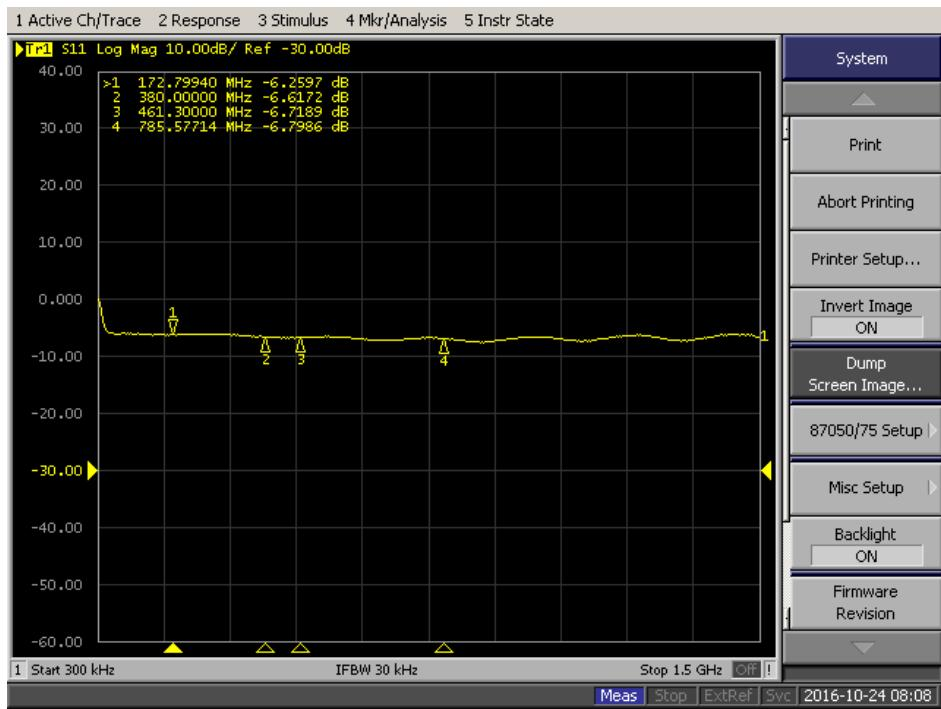

Figure 15: Ideal S11.
- Even without power, the S11, S22 trigger path, S22 signal path, and S21 signal path all have distinct gain patterns. They can be observed in figure 15,16,17, and18. Therefore, you can actually check many of the necessary connections on the board without powering it on.